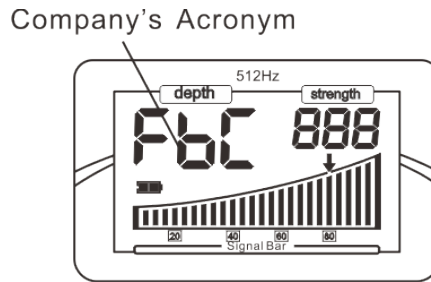

Figure 16
- **Depth Cursor:** Three digits display. Normal display "FbC" (abbreviation of Forbest Company, see Figure 16). When measuring the depth, it will display the depth and hold for about